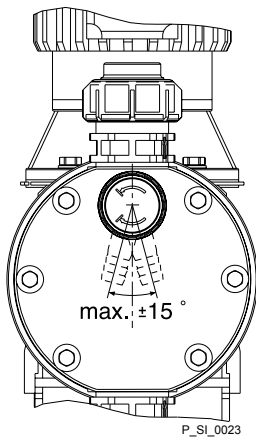

Fig. 19: Permissible alignment of the relief valve
- Route the overflow line with a continuous slope and moreover with the tube nozzle pointed downwards - see Fig. 19.